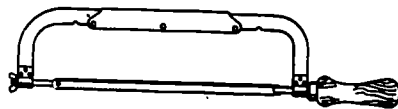

Fig 1-44. Adjustable hacksaw.
- **Hacksaw:** The tool has been used with success in cutting small diameter rigid and flexible plastic pipe. The hacksaw provides a cut with minimum burrs because of the small teeth on the blade. Figure 1-44 shows an adjustable type of hacksaw.